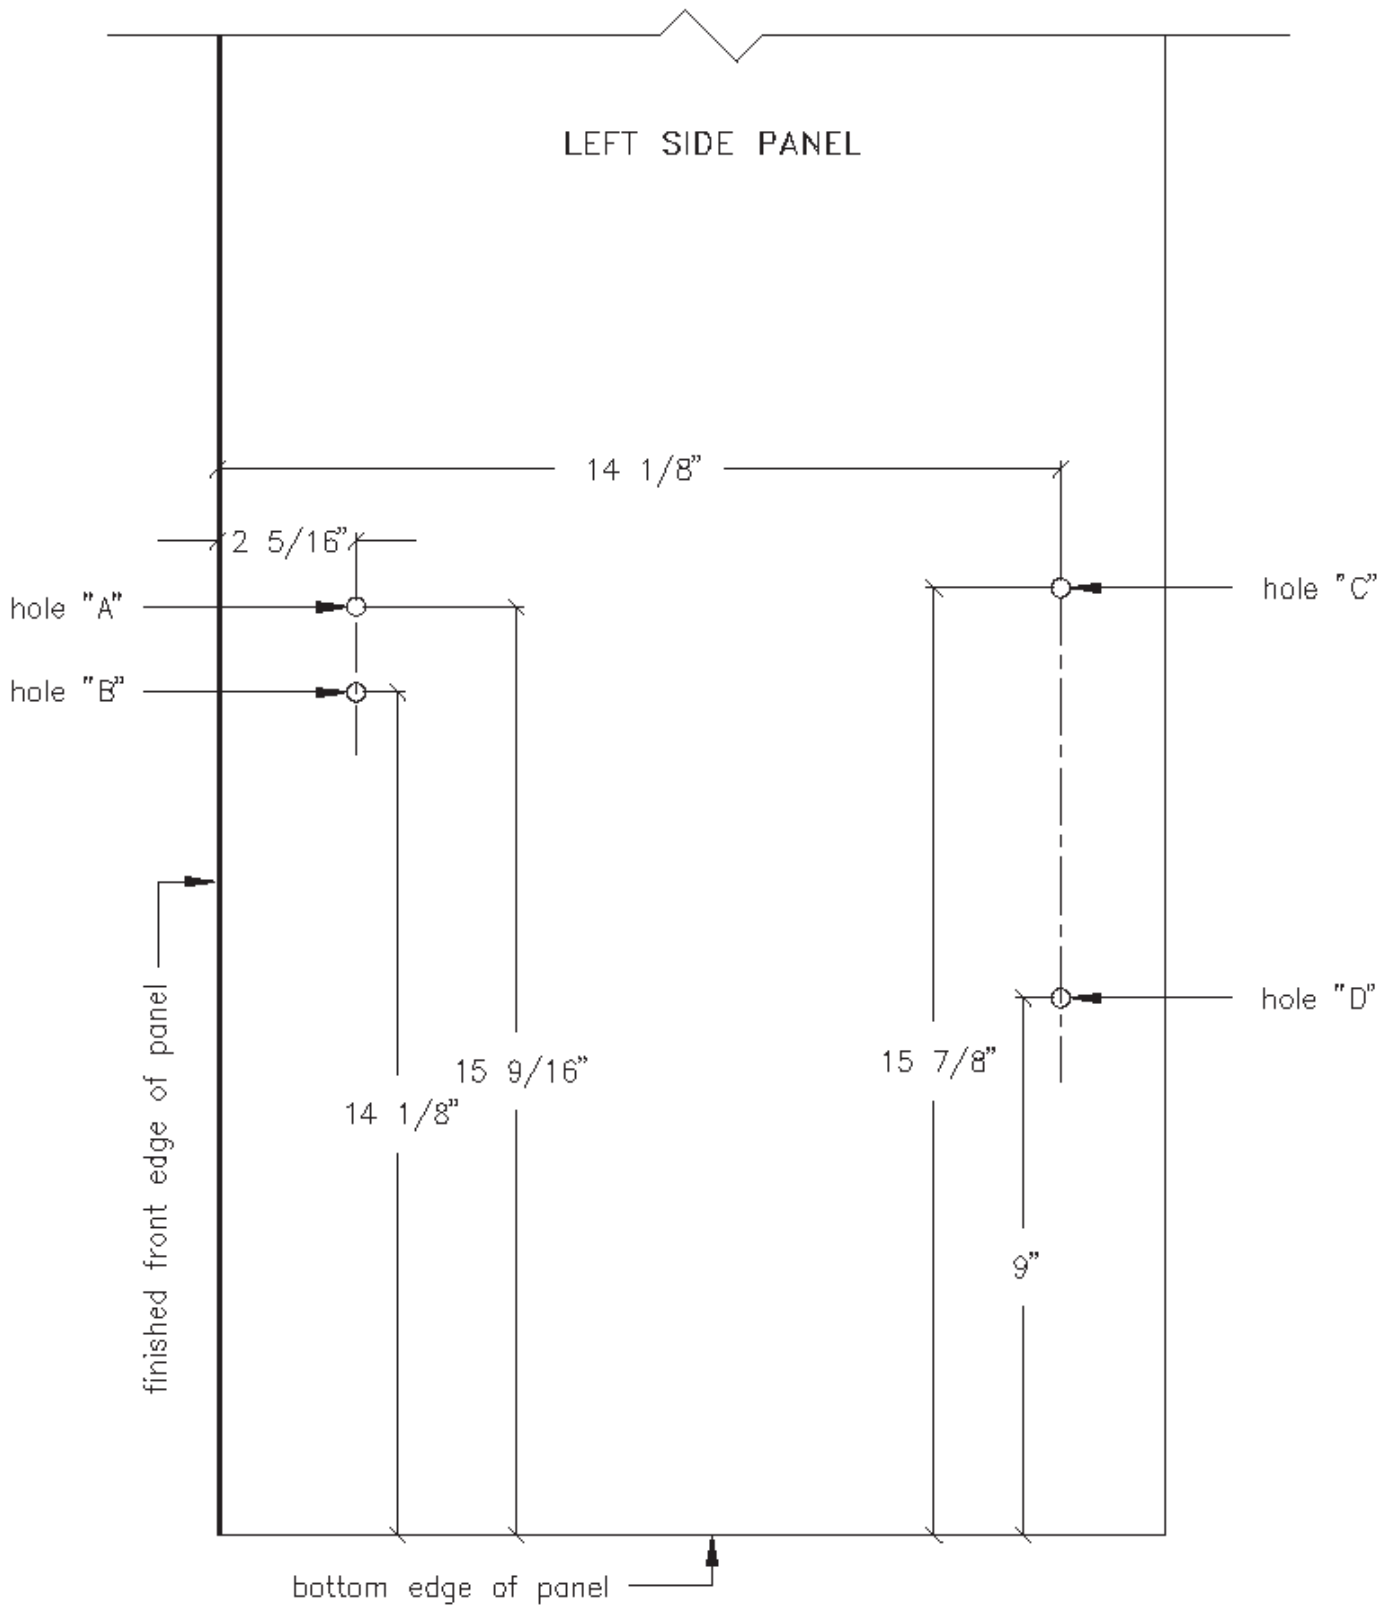

Figure 3. Laying out the Lift Mechanism mounting holes. Note that horizontal measurements are taken from the finished front edge.
- Layout and drill Lift Mechanism mounting holes, see **Figure 3**. Accurately mark the Lift Mechanism mounting holes on the inside of each SIDE PANEL. When drilling the holes, first drill a 1/16" pilot hole, being careful to keep the bit perpendicular to the panel, then drill the final hole with a 5/16" bit. Countersink (5/8" diameter) each hole on the outside of the panels, just deep enough for the head of the 5/16" x 1 1/4" flathead slot machine screw to sit flush with the surface. (The machine screws' heads can be sanded and painted to match your Cabinet finish.)